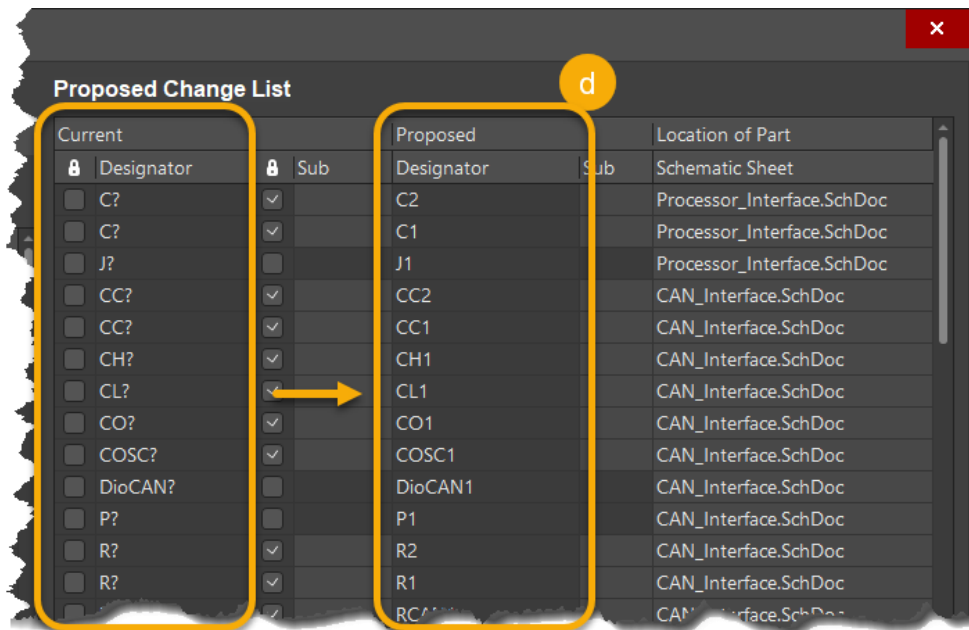

Figure 5. Proposed Designator changes based on the Annotation settings
- A preview of the proposed designator values will be displayed similar to what is shown in Figure 5.